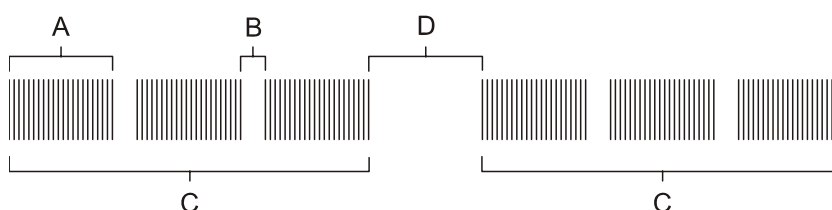

Figure 11: Burst pattern
- INTB indicates triggering with the internal burst generator according to a predefined burst pattern (see Figure 11).
Key to Figure 11:
This parameter indicates the amount of laser pulses in a burst (see Figure 11, A on page 46). The rate at which the pulses are emitted is set through REPRATE (see Section 4.4.4.2). The break between the pauses is set through BSTPAUSE (see Section 4.4.4.4).
This parameter indicates the length of the break between two bursts of laser pulses (see Figure 11, B on page 46). The amount and frequency of the laser pulses in the burst is defined through BSTPULSES (see Section 4.4.4.3) and REPRATE (see Section 4.4.4.2).
This parameter indicates the amount of pulse bursts in a sequence of bursts (see Figure 11, C on page 46). The burst is defined through BSTPULSES (see Section 4.4.4.3), REPRATE (Section 4.4.4.2) and BSTPAUSE (Section 4.4.4.4).
This parameter indicates the length of the break between two sequences of pulse bursts (see Figure 11, D on page 46). The amount of pulse bursts in a sequence is defined through SEQBST (see Section 4.4.4.5).